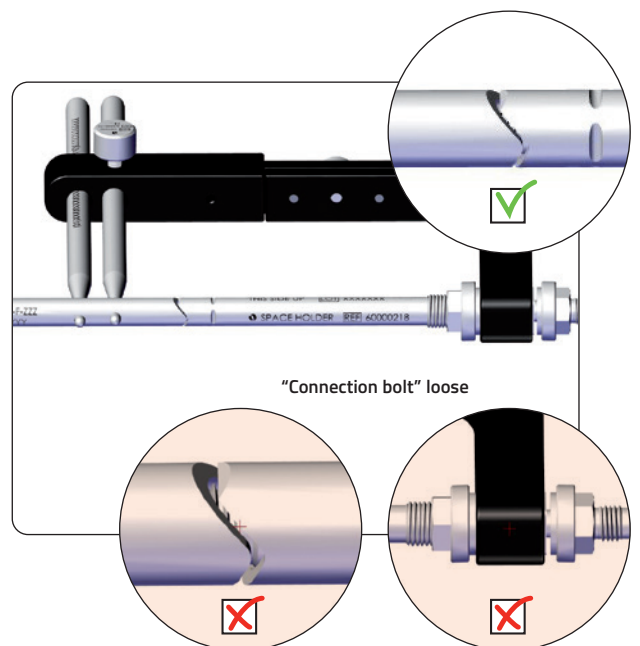

Fig. 38 Connection Bolt loose
4. The dummy/trial nail is loosely fixed to the "connection bolt". (Fig. 38)